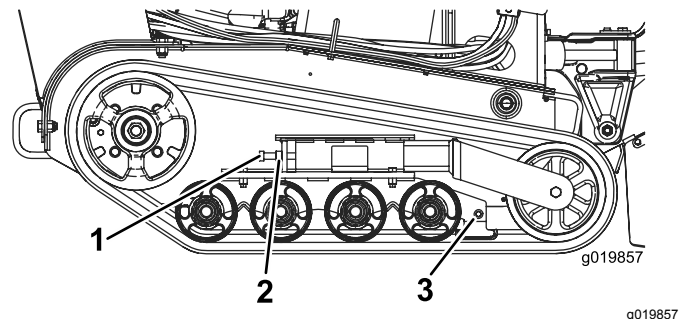

Figure 48
3. Loosen the jam nut on the track tensioning bolt and the clamp bolts on the tension arm (Figure 48).
4. Torque the tensioning bolt to 32.5 to 40 N·m (24 to 30 ft-lb) to tighten the track (Figure 48).
4. Back out the tensioning bolt and jam nut (Figure 48).